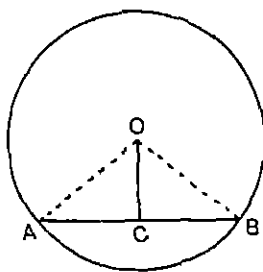

FIG. 36. OC AT RIGHT ANGLES TO CHORD AB
**I.** The children draw a circle and any chord in it. They join the centre of the circle to the mid-point of the chord and discover that OC is at right angles to AB, Fig. 36.